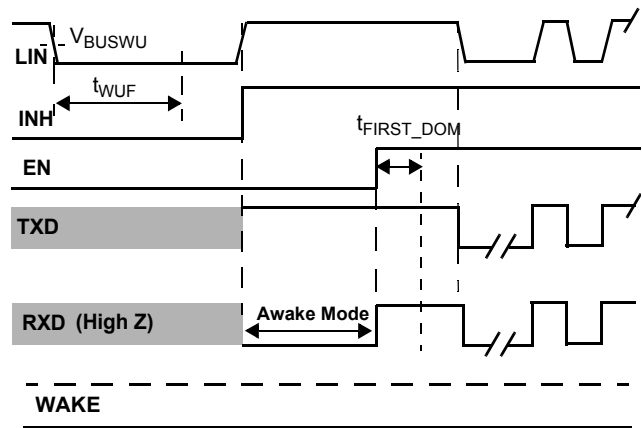
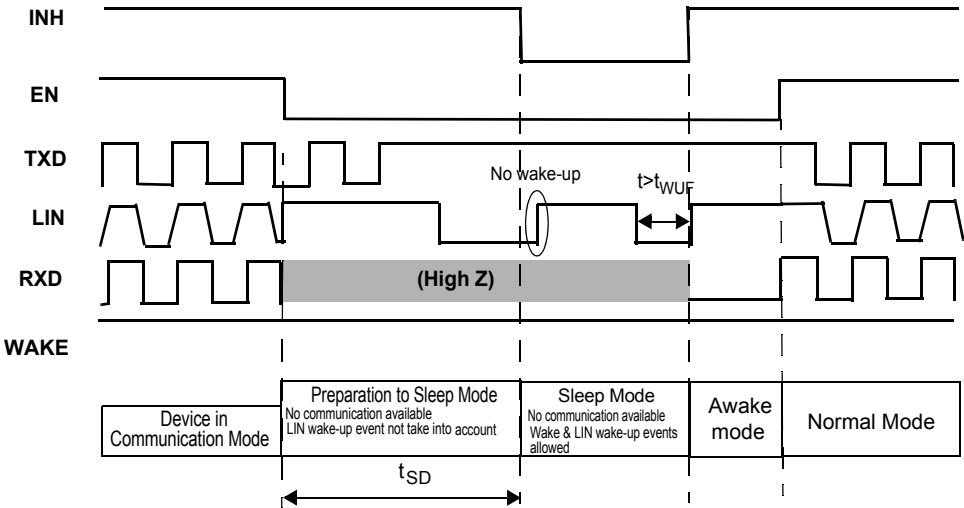

Figure 16. LIN Bus Wake-up with TXD High
Figure 20. LIN Bus Wake-up with LIN bus in Dominant During the Preparation to Sleep Mode
26. See Figure 16, 19, and Figure 20